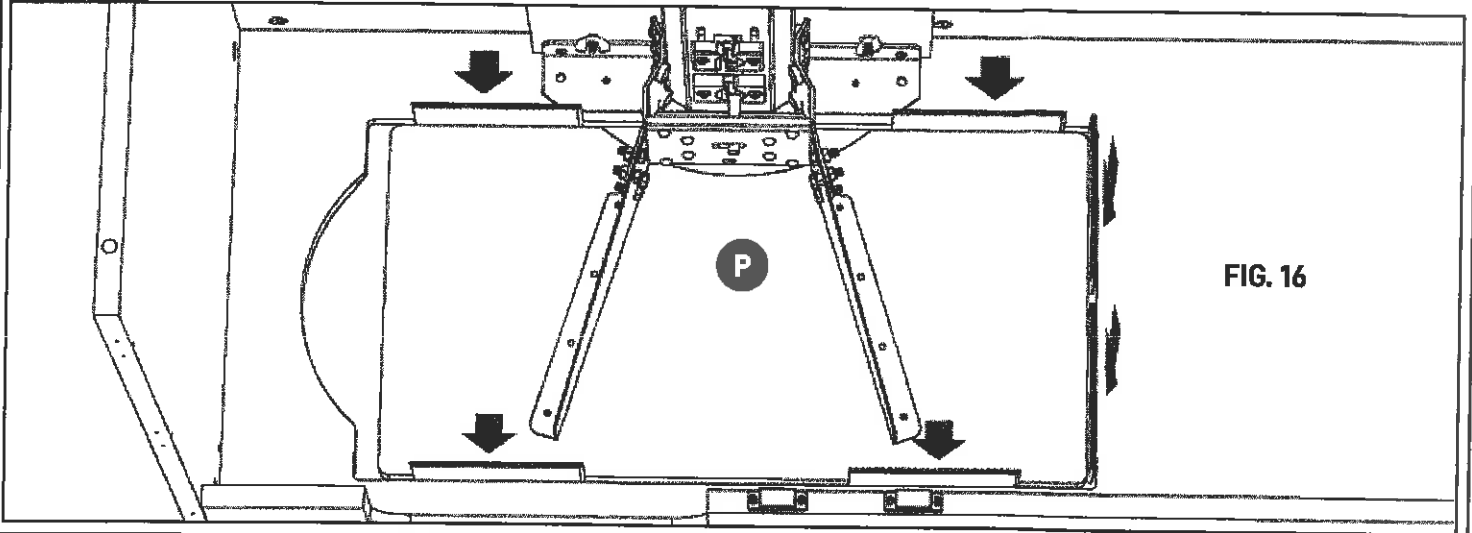

FIG. 16
Step 17. Place cardboard strips around the Platform (P) to keep the Platform square, as shown in FIG. 16. Make sure the Platform has